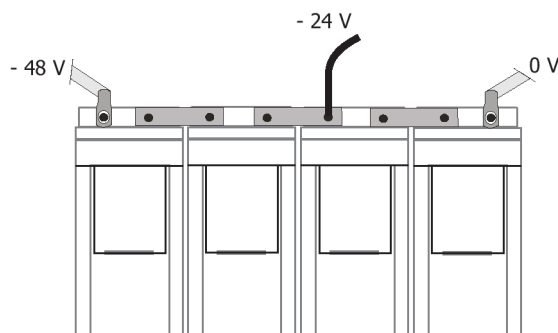

Figure 4-13 2-block Symmetry Measurement (for illustration only)
2. For 2-block battery symmetry measurement fix one wire of the symmetry cable to the cable lug in the mid-point of the battery string, see Figure 4-13.